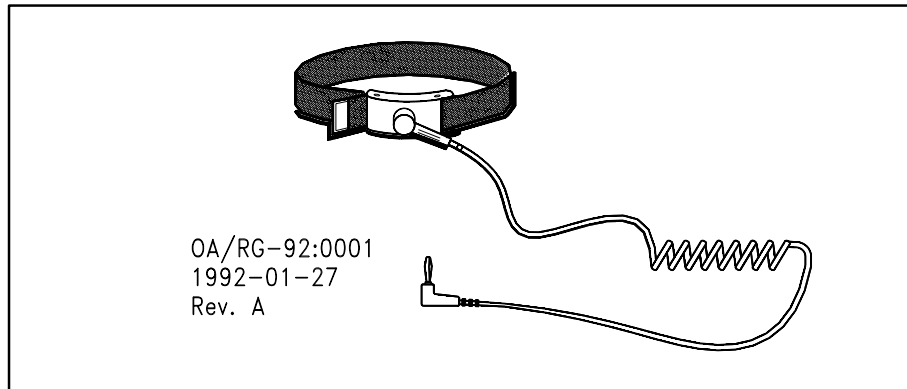

Figure 14 ESD wrist strap LYB 25 001/14
- A Distribution field in pos. 01, which distributes +24V DC to units and fans via 24, 10-16A glass tube fuses.
- Earthing point for electrostatic discharge, ESD. For connection of e.g. anti-static wrist strap LYB 25 001/14, shown in figure 14 below.
- Control board of fans in pos. 00 for supervision via alarm connections in pos. 01 J*14.